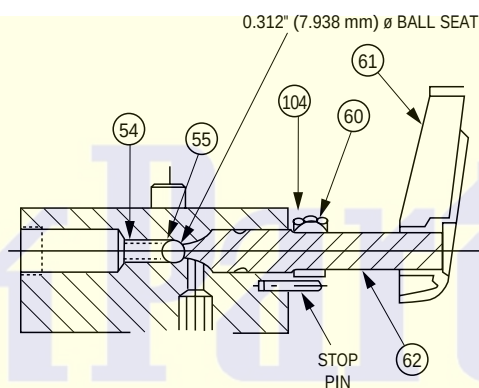
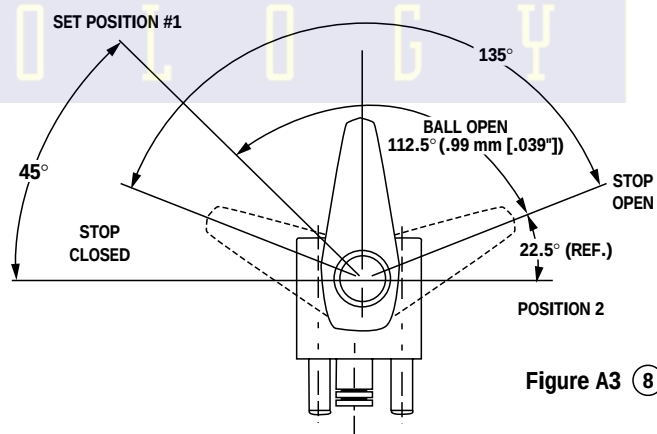

Figure A2 (8)
Figure A3 (8)
Refer to Figures A2 and A3. Thread in the shaft (62) until it just touches the check ball (55) (in its spring-loaded closed position). Slide collar (104) on the shaft. Position the handle (61) at the location "Position 1," (Figure A3), with the other surface of the handle flush with the end of the shaft. Lock in place. Rotate the handle to "Position 2," (Figure A3). Slide the collar toward the valve body until it contacts the 15.9 mm (5/8") diameter portion of the control shaft. Rotate the lock collar clockwise until it touches the stop pin, and lock in place.